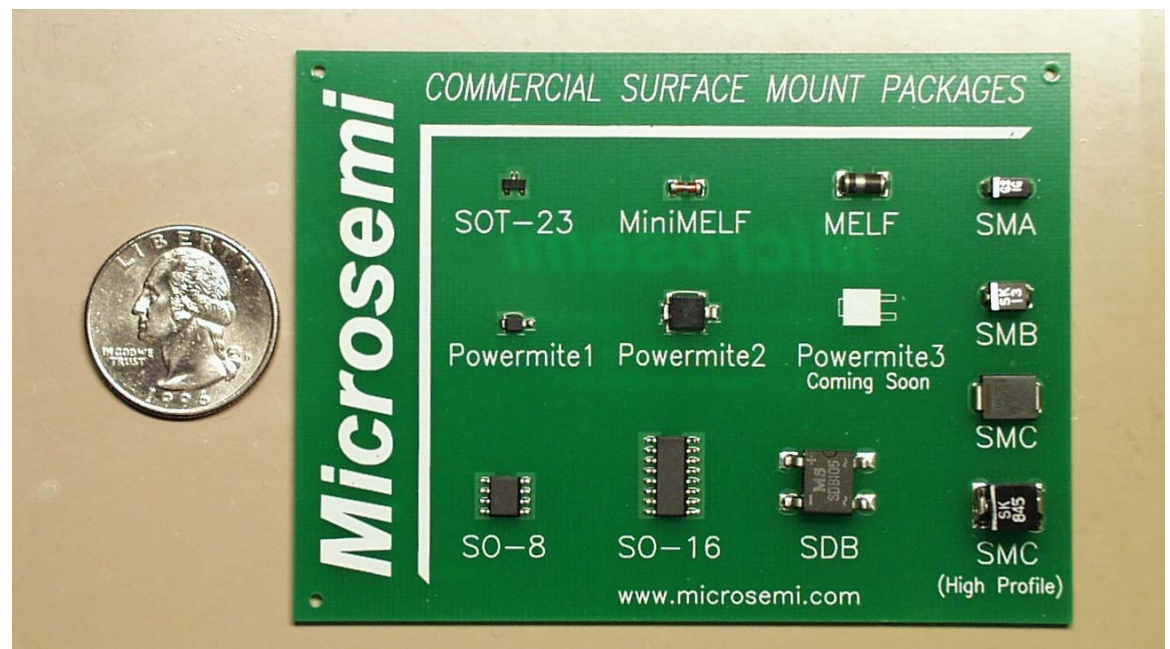

Figure 13-2: Surface Mount RF Semiconductors
So how can we build microwave communications circuits at all? There are three important elements we must consider. First, we must abandon many of the components used at lower frequencies and adopt devices that are built for UHF and SHF application. In general, the use of *surface mount* components greatly reduces the amount of parasitic lead inductance by eliminating the wire leads. Figure 13-2 shows several surface-mount RF semiconductors on a demonstration board.
- 13-6 Explain how the resonator of Figure 13-2 acts as a bandpass filter.